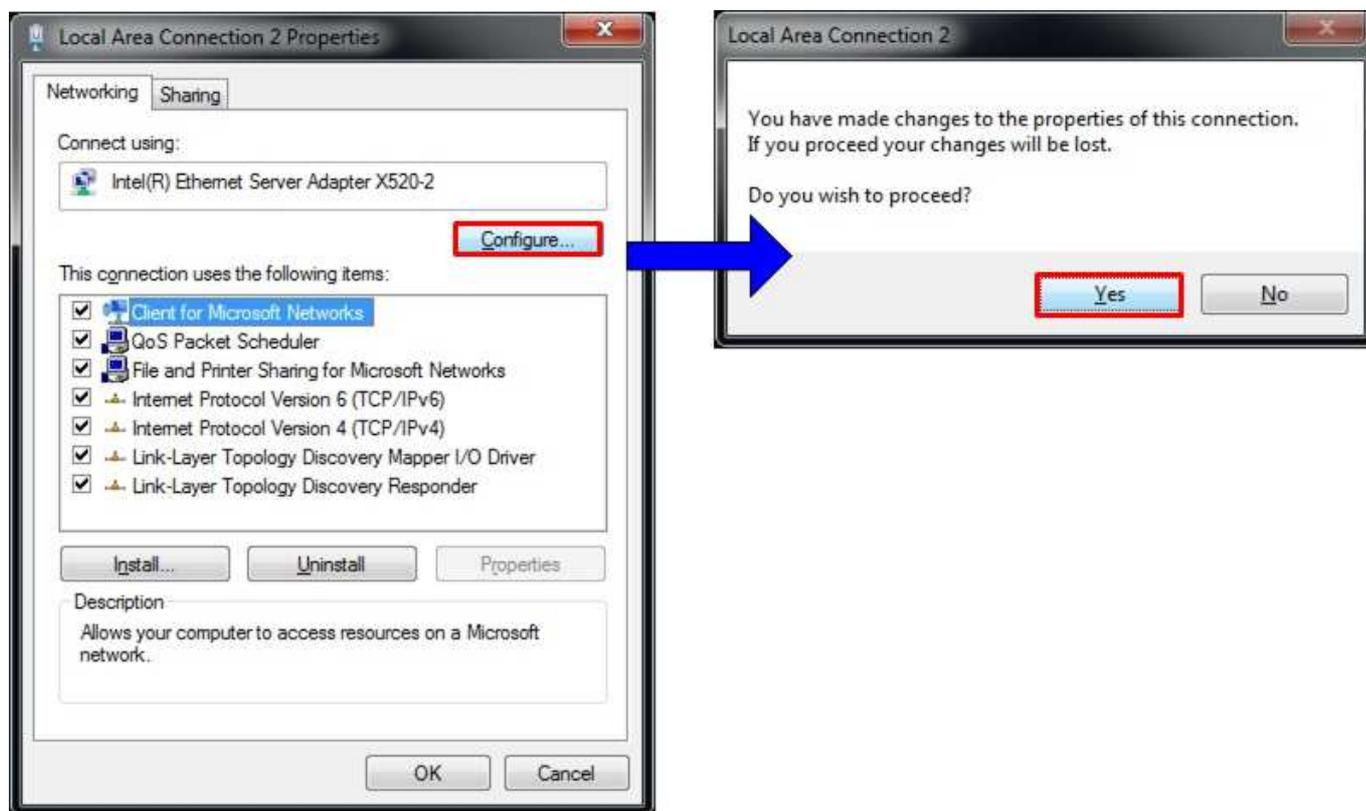

Figure 5 Network Configure
- On Local Area Connection Properties window, click “Configure” as shown in Figure 5.